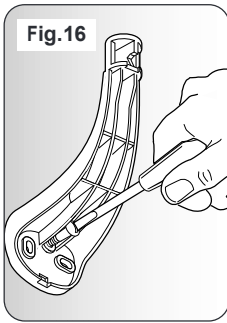

Fig.17
**A** Offer one of the two brackets to the wall for the lower position only. Note there are three holes in the brackets but two screws will usually be sufficient. However, the centre hole must be used so mark this and either of the other two. Drill and plug the wall. Replace the bracket to the wall and secure to the wall with the screws supplied (fig.16). Locate the rail onto this lower bracket ensuring the rail engages fully on the bracket. Ensure the indent in the riser rail engages into the cut-out on the bracket end (fig.17).